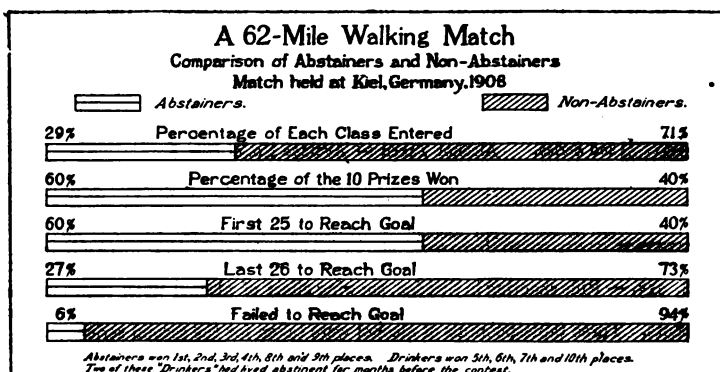

FIG. 214. — Comparison of abstainers and non-abstainers in a walking match.
*Alcohol and athletics.* Figure 214 shows the effect in an athletic contest of the use of alcohol. This was a sixty-two mile walking match in Germany. Of those who entered 71 per cent drank beer and 29 per cent were abstainers.